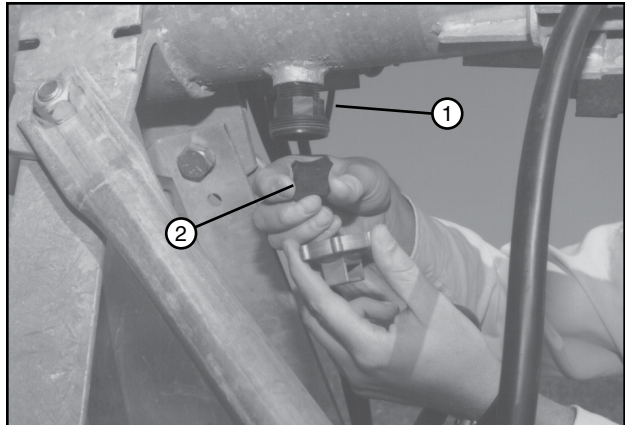

Figure 90-1 1. Pipe Drain
3. Remove the pipe drains at each drive unit tower. Clean sand and foreign particles from these drains. Turn the rubber drain seal over when reinstalling. See Figure 90-1.